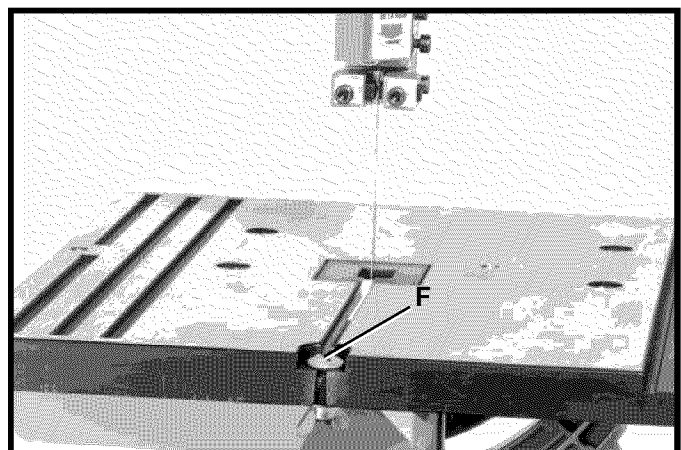

Fig. 41
5. Remove table alignment screw (F) Fig. 41.